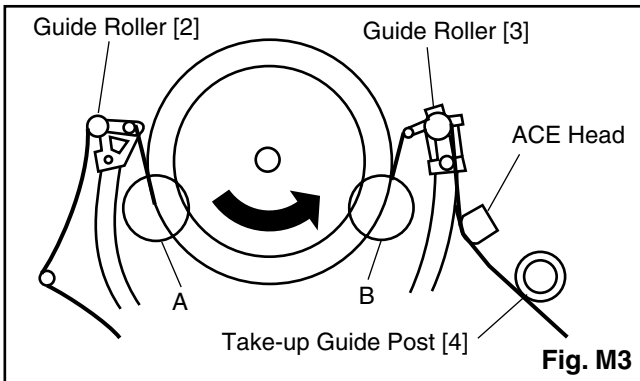

Fig. M3
1. Playback a blank cassette tape and check to see that the tape runs without creasing at Guide Rollers [2] and [3], and at points A and B on the lead surface. (Refer to Fig. M3 and M4.)
2. If creasing is apparent, align the height of the guide rollers by turning the top of Guide Rollers [2] and [3] with a Guide Roller Adj. Screwdriver. (Refer to Fig. M3 and M5.)
3. Check to see that the tape runs without creasing at Take-up Guide Post [4] or without snaking between Guide Roller [3] and ACE Head. (Fig. M3 and M5)
- Playback the Gray Scale on the Alignment Tape (MH-1). Set the Tracking Control Circuit to the preset position by pressing “CH ▲” button and then “VCR-PLAY” button on the unit. Adjust the height of Guide Rollers [2] and [3] (Fig. M3, page 4-6) watching the oscilloscope display so that the envelope becomes as flat as possible. To do this adjustment, turn the top of the Guide Roller with the Guide Roller Adj. Screwdriver.
- If the envelope is as shown in Fig. M7, adjust the height of Guide Roller [2] (Refer to Fig. M3) so that the waveform looks like the one shown in Fig. M9.
- If the envelope is as shown in Fig. M8, adjust the height of Guide Roller [3] (Refer to Fig. M3) so that the waveform looks like the one shown in Fig. M9.
- When Guide Rollers [2] and [3] (Refer to Fig. M3) are aligned properly, there is no envelope drop either at the beginning or end of track as shown in Fig. M9.
Note: Upon completion of the adjustment of Guide Rollers [2] and [3] (Refer to Fig. M3), check the X Value by pushing the “CH ▲” or “CH ▼” buttons on the unit alternately, to check the symmetry of the envelope. Check the number of pushes to ensure preset position. The number of pushes “CH ▲” button on the unit to achieve 1/2 level of envelope should match the number of pushes “CH ▼” button on the unit from center. If required, redo the “X Value Alignment.”